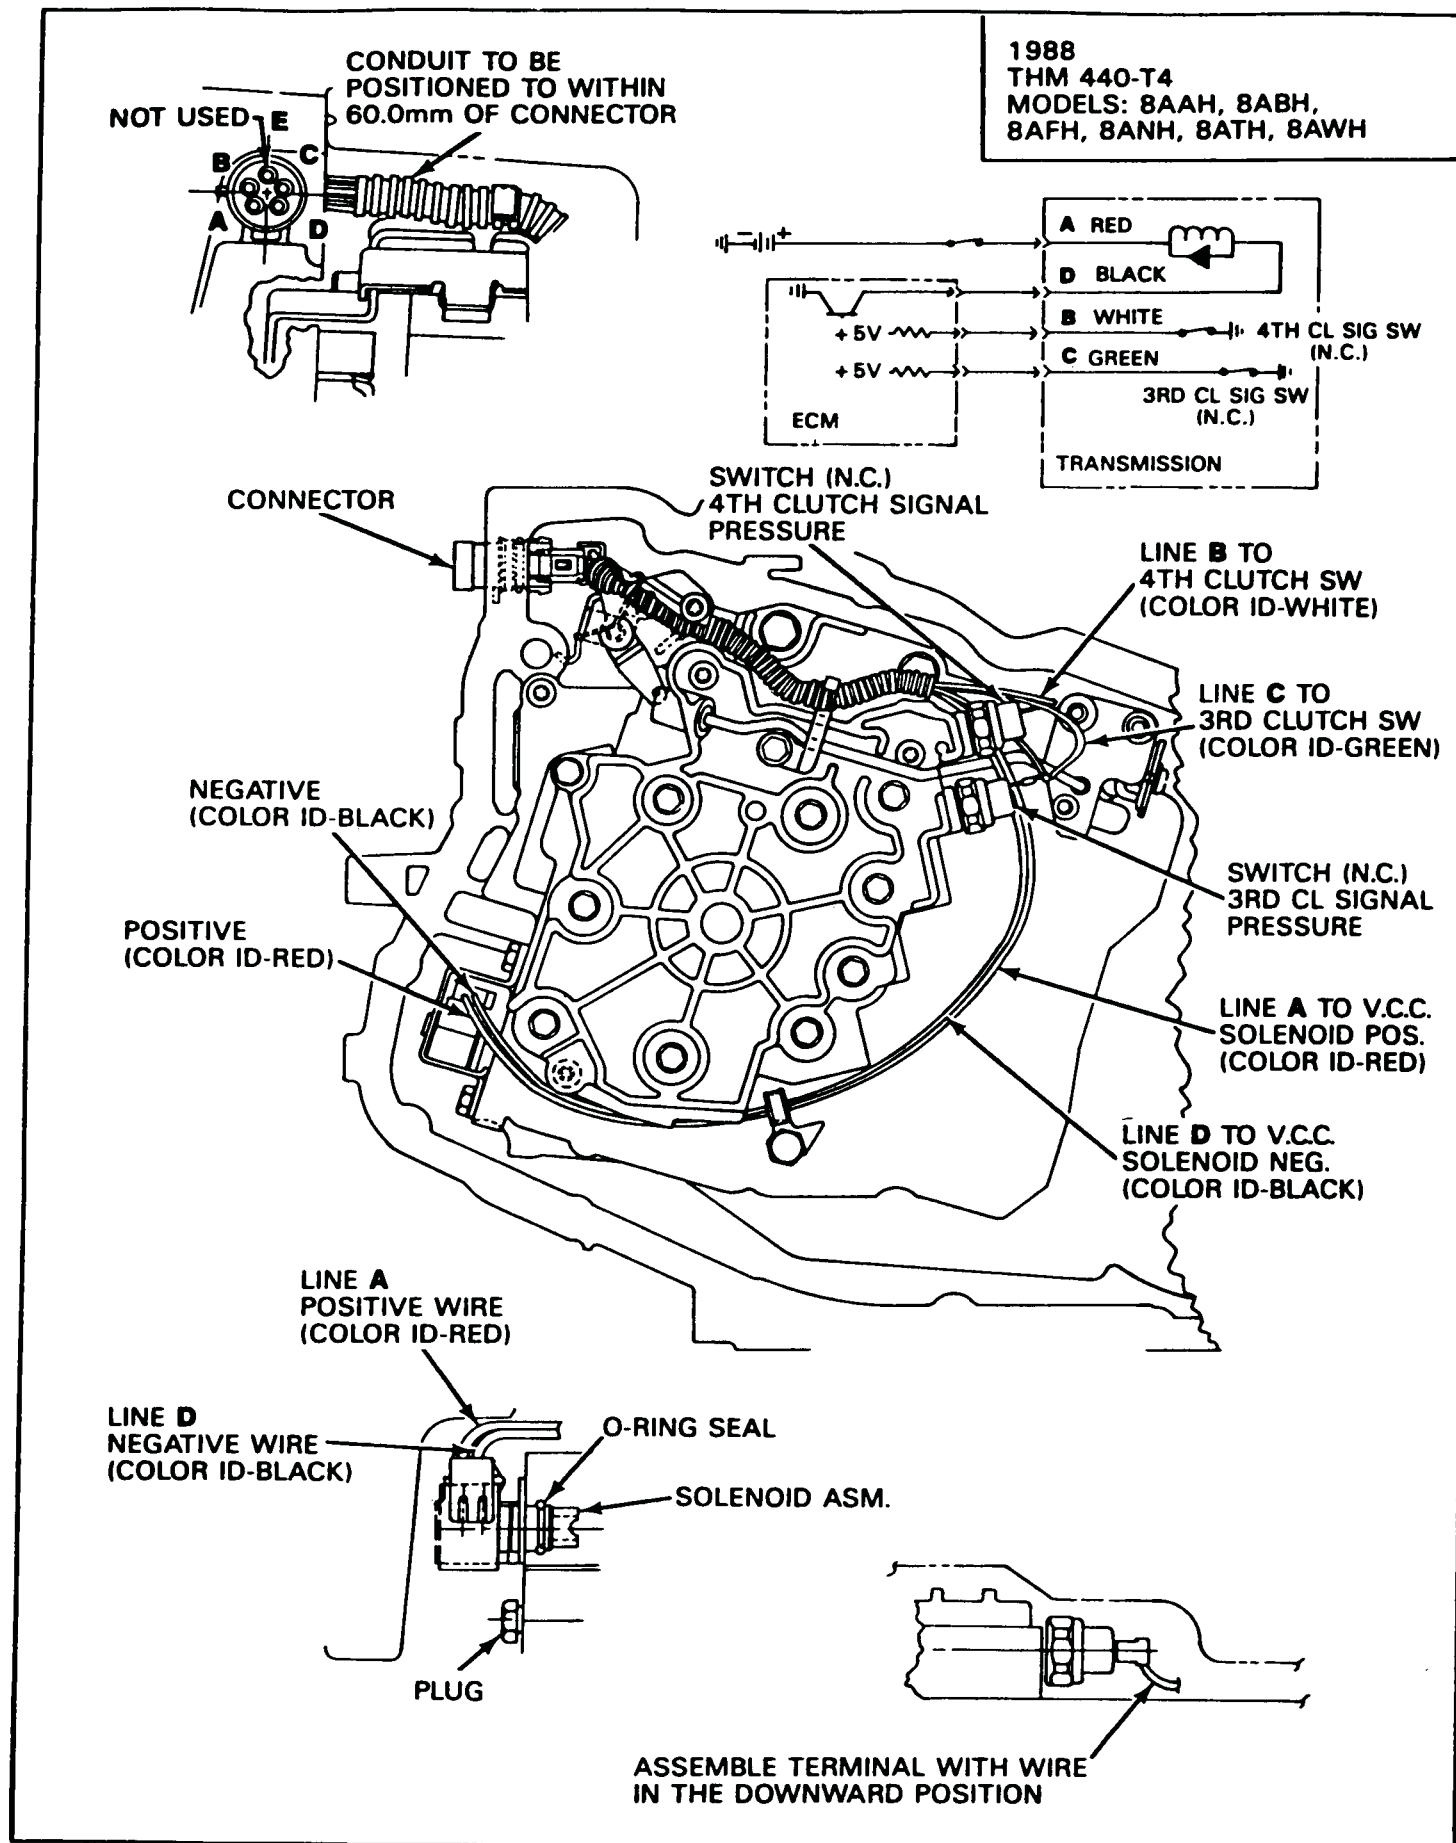

Figure 75
- (4) Case Connector - "E" terminal that normally carried the thermister wire is now empty (See Figure 75).
- (5) Vehicle Wiring Harness.